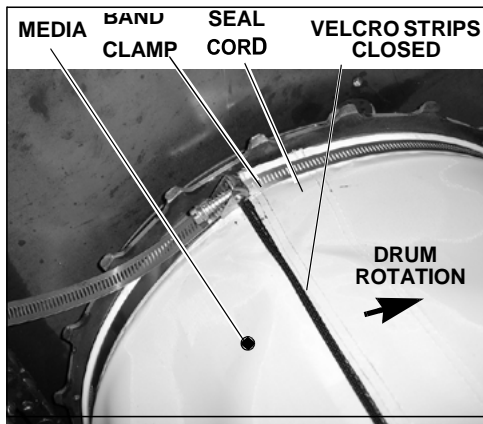

Figure 26. Media Installed on Drum
4. The media is held onto the drum with large band clamps (hose clamp) on either end, Figure 26.
**around drum, and that the lapping edge faces the front of the unit, against the direction of rotation. See Figures 26 and 27.**
4. Insure media edges are against the drum end disks the entire circumference of the drum. Stretch the media and secure the Velcro closure. The Velcro seam should be evenly closed the entire length of the joint as shown in Figure 26.
5. Reinstall the band clamps. Insure that the clamp is placed between the ridge on the drum cylinder and the seam cord on the media, Figure 26. Tighten the clamps.